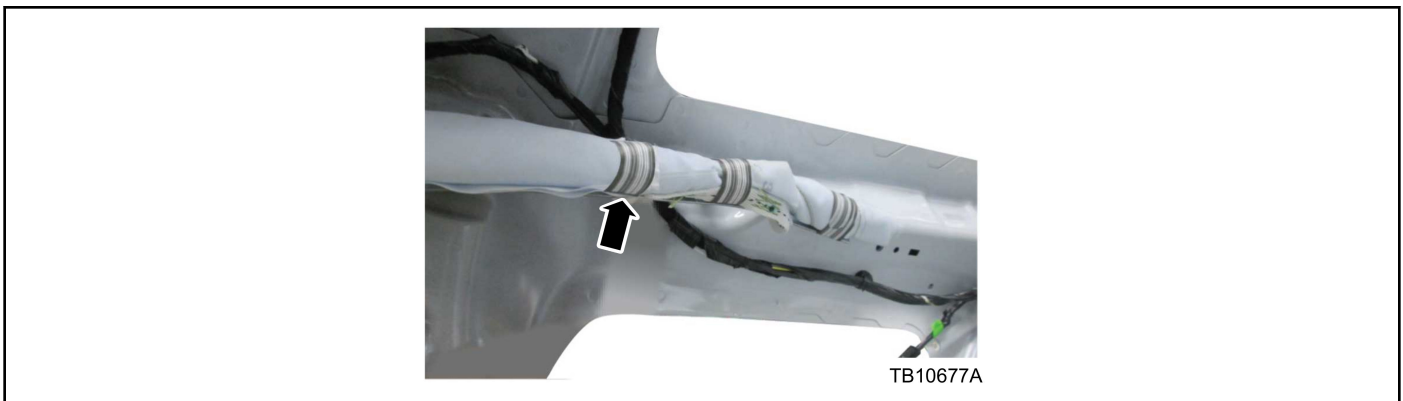

Figure 1 - Article 15-0069
3. Without using a cutting tool, hand tear and remove the striped or bar coded piece of tape identified on both the driver and passenger side curtain air bag in the C pillar area. (Figure 1)